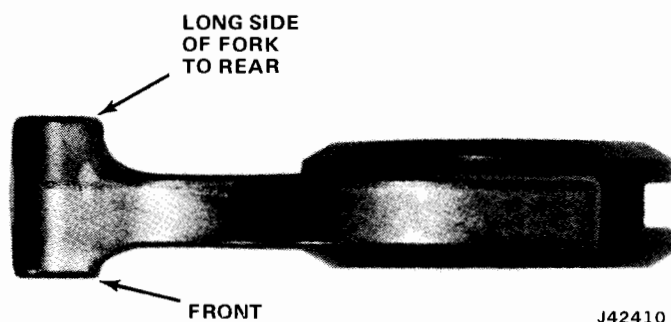

Fig. 8-56 Shift Fork and Lockup Hub Assembly
- (5) Remove diaphragm from case cover.
- (6) Remove detent ball and spring.
- (7) Remove shift fork and plastic shifting shoes.
- (8) Remove lockup hub.
- (9) Lubricate and install shifting shoes in shift fork. Install lockup hub in shift fork (fig. 8-56).
- (10) Insert fork, with long side of fork to rear, and hub assembly in case cover.